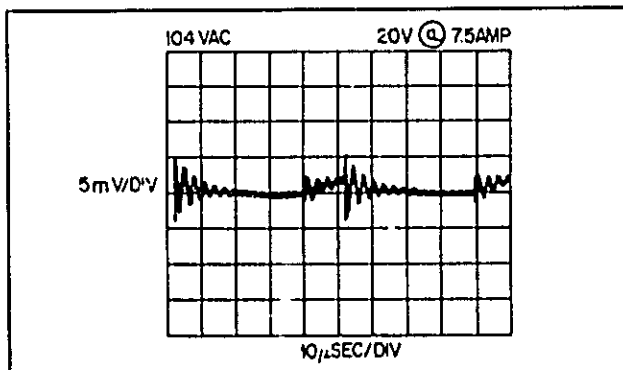

Figure 5-8. 20 kHz Noise, CV Peak-To-Peak PARD
- Set the oscilloscope's input impedance to 50 Ω and bandwidth to 20 MHz. Adjust the controls to show the 20 kHz and higher frequency output-noise waveform of Figure 5-8.